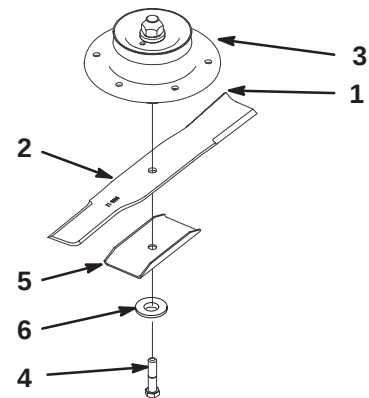
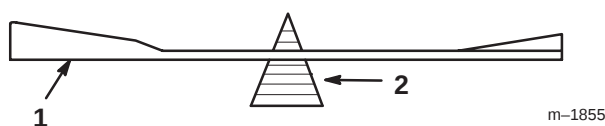

Figure 48
Figure 50
1. Hold the blade end using a rag or thickly-padded glove. Remove the blade bolt, blade stiffener, washer, and blade from the spindle shaft (Fig. 48).
2. Check the balance of the blade by putting it on a blade balancer (Fig. 50). If the blade stays in a horizontal position, the blade is balanced and can be used. If the blade is not balanced, file some metal off the end of the sail area only (Fig. 48). Repeat this procedure until the blade is balanced.
1. Install the blade onto the spindle shaft (Fig. 48).
Important The sail part of the blade must be pointing upward, toward the inside of the mower to ensure proper cutting (Fig. 48).
2. Install the blade stiffener, flat washer and blade bolt (Fig. 48). Torque the blade bolt to 85–110 ft-lb (115–140 N•m).